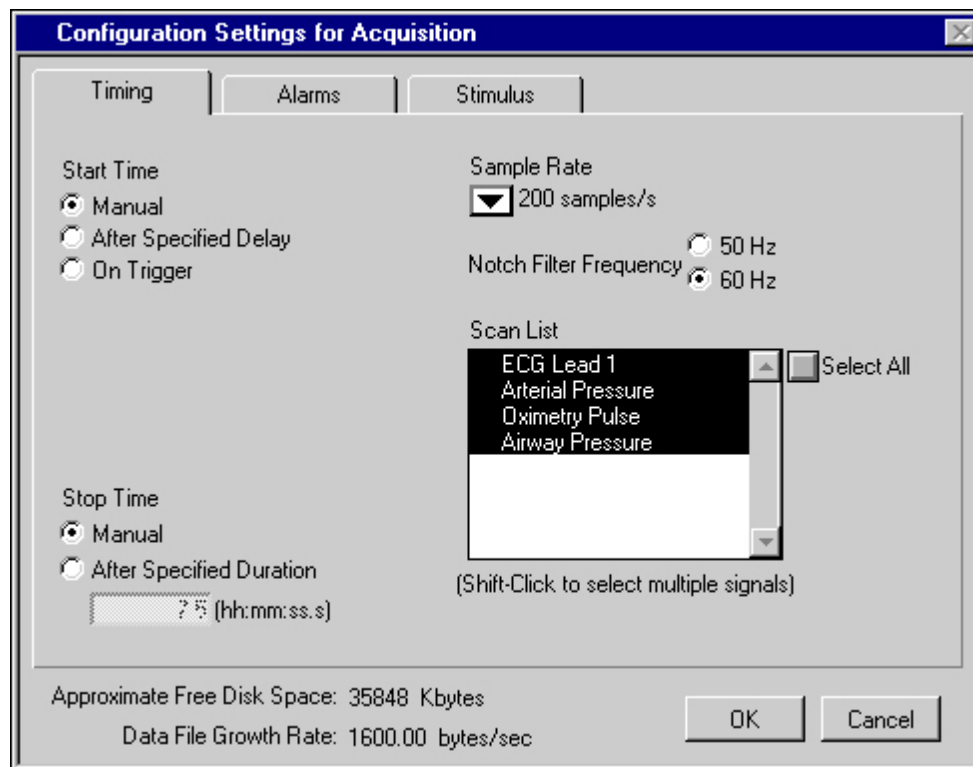

Figure B-3. Setting Sample Rate, Configuration Settings for Acquisition Dialog Box
5. Select **Configure»Settings**, then select the Timing tab in the dialog box that appears. Choose a sample rate of 200 Hz from the Sample Rate pull-down list. Figure B-3 shows the Timing tab in the Configuration Settings for Acquisition dialog box.